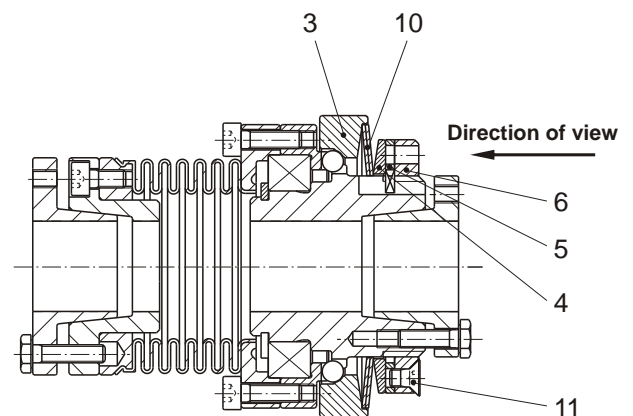

Fig. 11
Turning the adjusting nut (6) within the operating range in a clockwise direction reduces the torque. Turning it anti-clockwise causes an increase in torque. You should be facing the adjusting nut (6) as shown in Figs. 11 and 12.